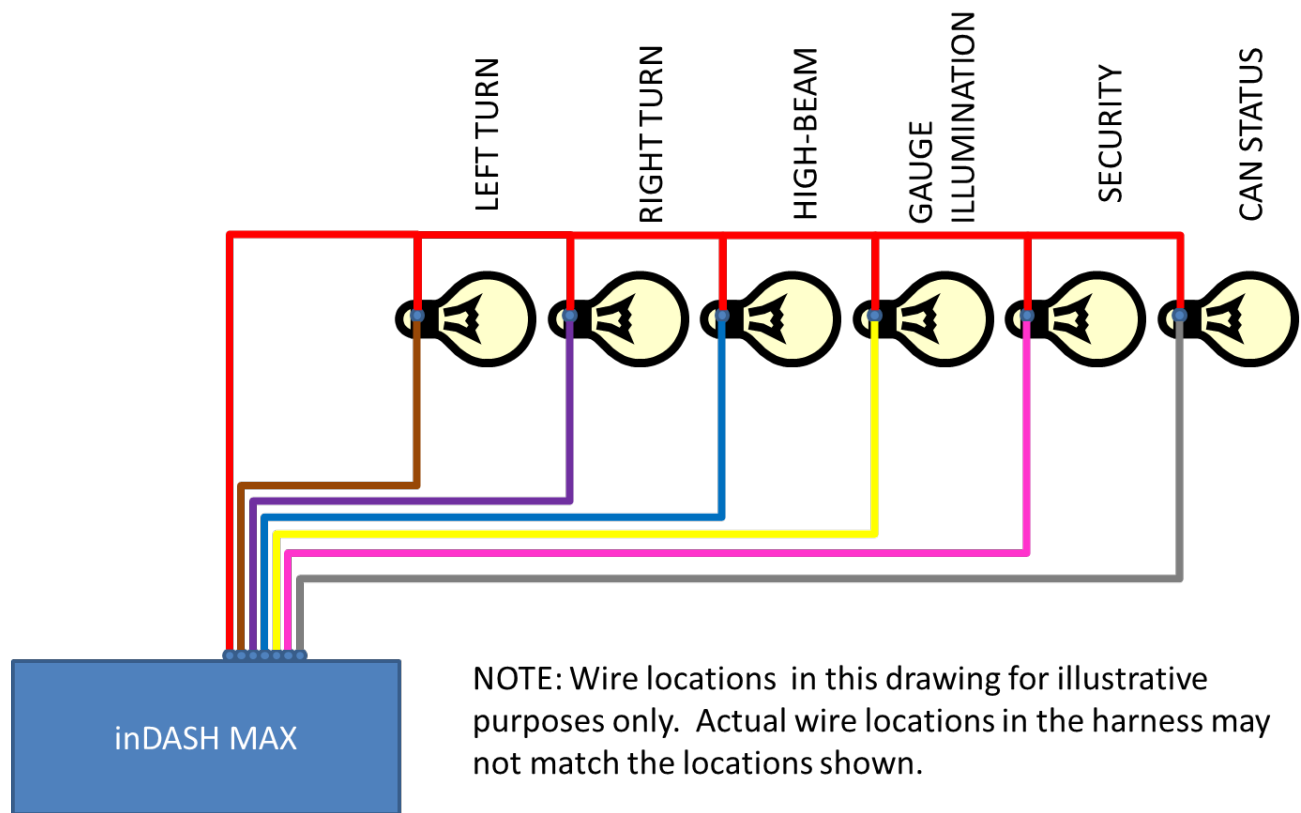

Figure 1: Wiring Schematic for INFINITYBOX inDASH MAX.
- 4) Connect the other wires in the inDASH MAX output harness to your indicators using Figure 1.